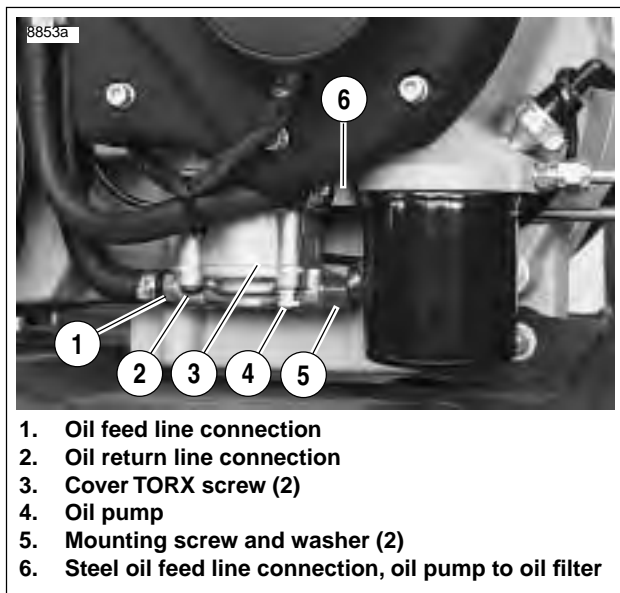

Figure 3-96. Oil Pump Hardware
3. See Figure 3-96. Disconnect feed hose and oil filter hose connection.
6. See Figure 3-96. Remove cover TORX screws. Lift cover off body.